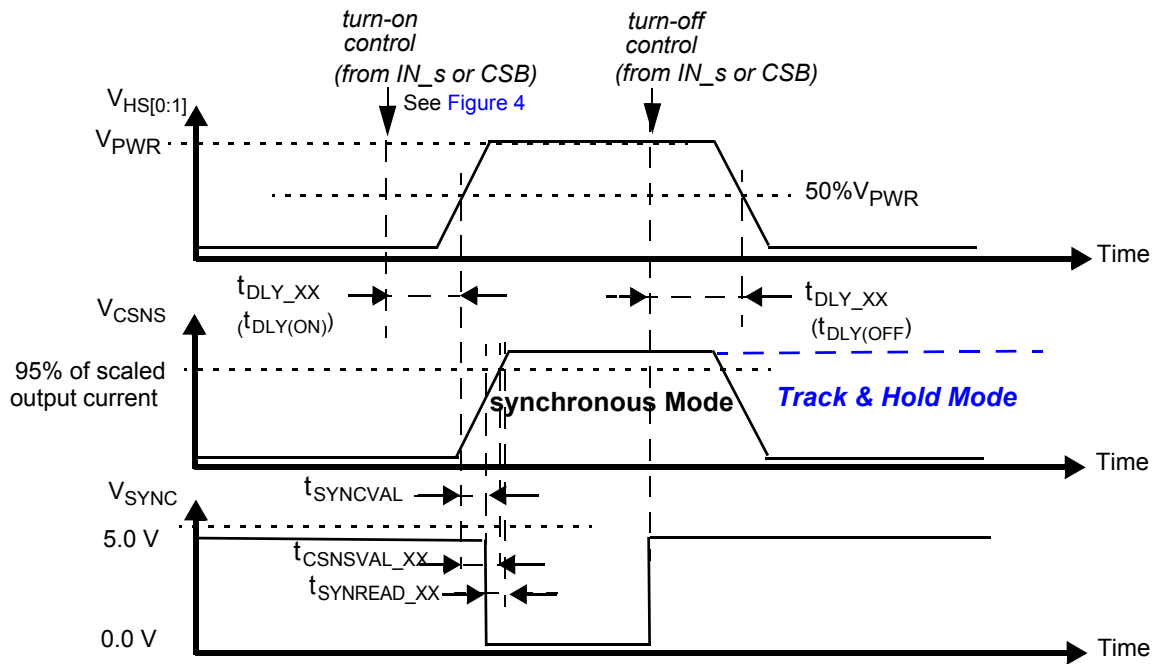

Figure 9. Synchronous and track-and-hold current sensing modes: associated delay and settling times
30. Time required to switch off the channel after detection of overtemperature (OT), overcurrent (OC), SC or UV error (time measured between start of the negative edge on the FSB pin and the falling edge on the output voltage until $V(\text{HS}[0:1]) = 50\%$ of V_{PWR}).
31. Settling time (= $t_{\text{CSNSVAL_XX}}$), SYNC output signal delay (= $t_{\text{SYNCVAL_XX}}$) and Read-out delay (= $t_{\text{SYNREAD_XX}}$) are defined for a stepped load current ($100\text{ mA} < I(\text{LOAD}) < \text{IOCLX A FOR CSNS_RATIO_S} = 1$, AND $300\text{ mA} < I(\text{LOAD}) < \text{IOCLX A}_0 \text{ FOR CSNS_RATIO_S} = 0$). (see Figure 9 and Output current monitoring \(CSNS\))
The CS pin allows independent current monitoring of channel 0 or channel 1 up to the steady-state overcurrent threshold. It can also be used to sense the device temperature. The different functions are selected by setting bits CSNS1_en and CSNS0_en to the appropriate value (Table 23). When the CSNS pin is sensed during switch-off in the (optional) track & hold mode (see Figure 9), it outputs the scaled value of the load current as it was just before turn-Off. When several devices share the same pull-down resistor, the CSNS pins of devices the current of which is not monitored must be tri-stated. This is accomplished by setting CSNS0_en = 0 and CSNS1_en = 0 in the GCR register (Table 10). Settling time ($t_{CSNSVAL_XX}$) is defined as the time between the instant at the middle of the output voltage's rising edge ($HS[0:1] = 50\%$ of V_{PWR}), and the instant at which the voltage on the CSNS-pin has settled to $\pm 5.0\%$ of its final value. Anytime an overcurrent window is active, the CSNS pin is disabled (see Overcurrent detection on resistive and inductive loads). The current and temperature sensing functions are unavailable in Fail-safe mode and in Normal mode when operating without the V_{DD} supply voltage. In order to generate a voltage output, a pull-down resistor is required ($R(CSNS) = 1.0$ k Ω typ. and $470 < R(CSNS) < 10$ k). When the current sense resistor connected to the CSNS pin is disconnected, the CSNS voltage is clamped to $V_{CL(CSNS)}$. The CSNS pin can source currents up to about 5.6 mA.
To synchronize current sensing with an external process, the SYNC signal can be connected to a digital input of an external MCU. SYNC is asserted logic low when the current sense signal is accurate and ready to be read. The current sense signal on the CSNS pin has the specified accuracy $t_{SYNCREAD_XX}$ seconds after the falling edge on the SYNC pin (Figure 9) and remains valid until a rising edge is generated. The rising edge that is generated by the SYNC pin at the turn-OFF instant (internal or external) may also be used to implement synchronization with the external MCU. Parameter $t_{SYNCVAL_XX}$ is defined as the time between the instant at the middle of the output-voltage rising edge ($HS[0:1] = 50\%$ of V_{PWR}), and the instant at which the voltage on the SYNC-pin drops below 0.4 V (V_{SOL}). The SYNC pins of different devices can be connected together to save μ -controller input channels. However, in this configuration, the CSNS function of only one device should be active at a time. Otherwise, the MCU does not determine the origin of the SYNC signal. The SYNC pin is open drain and requires an external pull-up resistor to VDD.